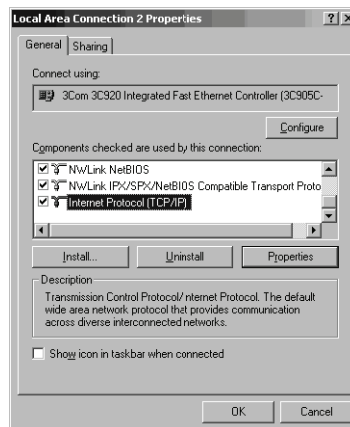

Figure 3. Local Area Connection Properties Screen
- Click the **Properties** button and the Local Area Connection Properties screen displays (Figure 3).